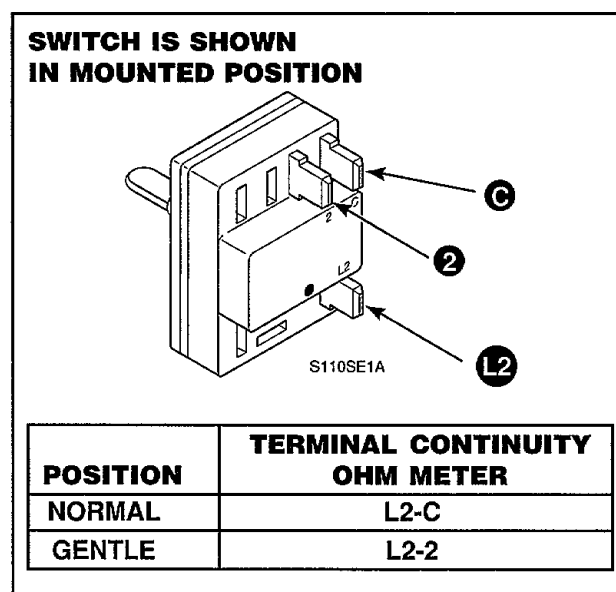

Figure 54
- f. Apply meter probes to terminals indicated in *Figure 54* for continuity checks.